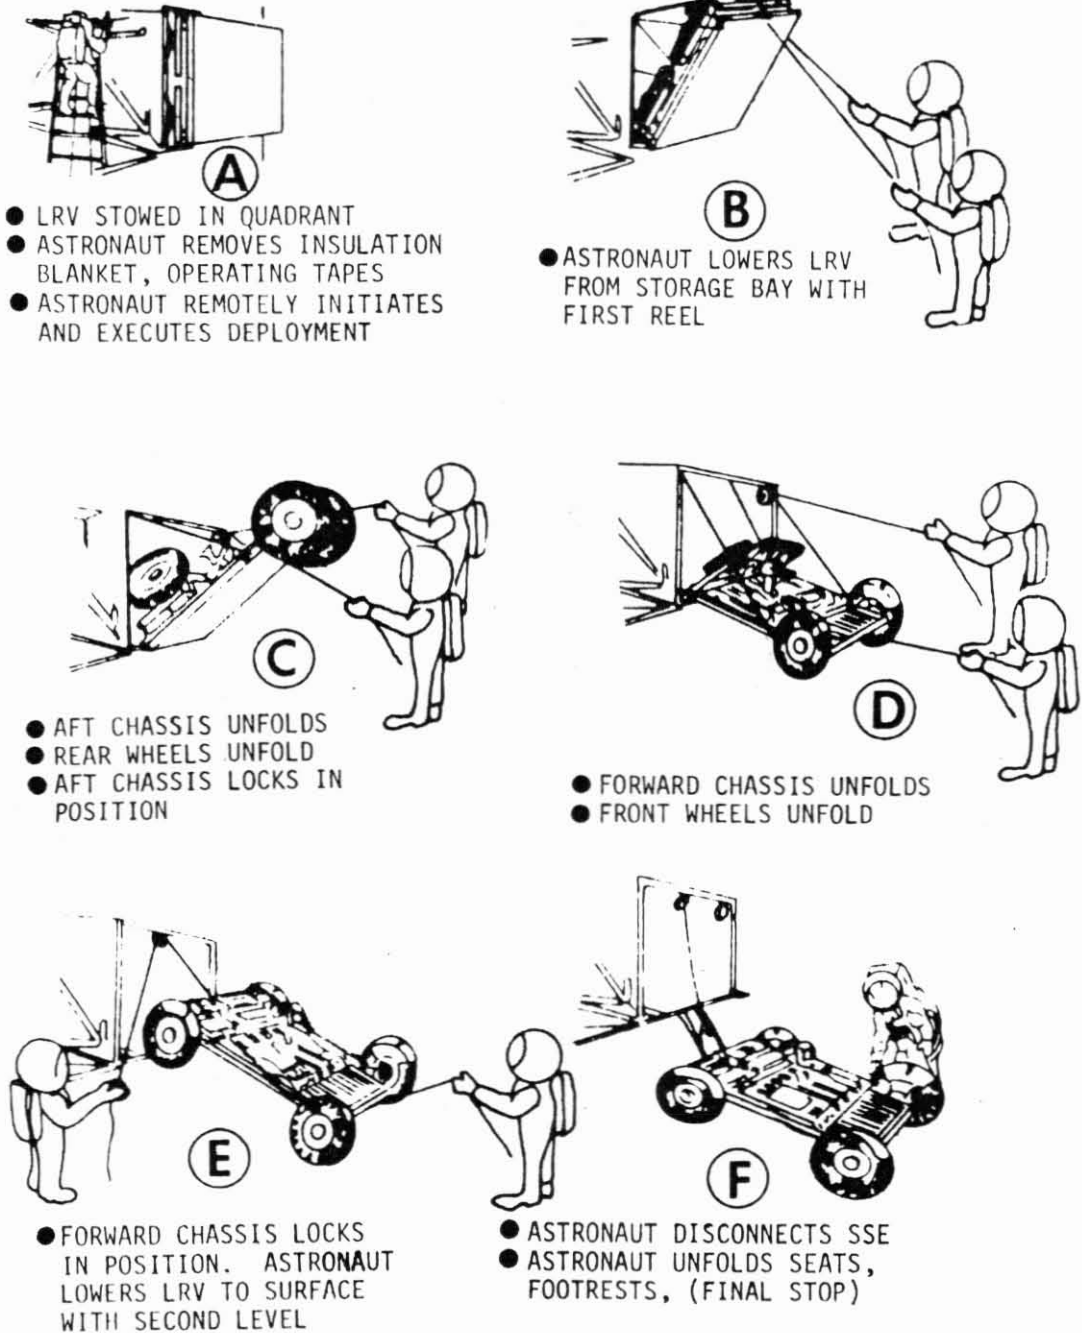

FIGURE 1-39 LRV DEPLOYMENT SEQUENCE
- Phase I - Deployment from the stowed position of both braked reel separating tapes and the deployment cable (figure 1-39, inset (A) )
- Phase II - Operating the D-Handle to disconnect the LRV from the structural support subsystem (figure 1-39, inset (A) ).
- Phase III - Operating the double braked reel to unfold the LRV and lower the aft chassis wheels to the lunar surface (figure 1-39, insets (B), (C) and (D) ).
Phase IV - Operating the center braked reel to lower the forward chassis wheels to the lunar surface (figure 1-39, inset (E) ).
Phase V - Disconnecting the SSE from the LRV after all four wheels are on the surface (figure 1-39, inset (F) ).